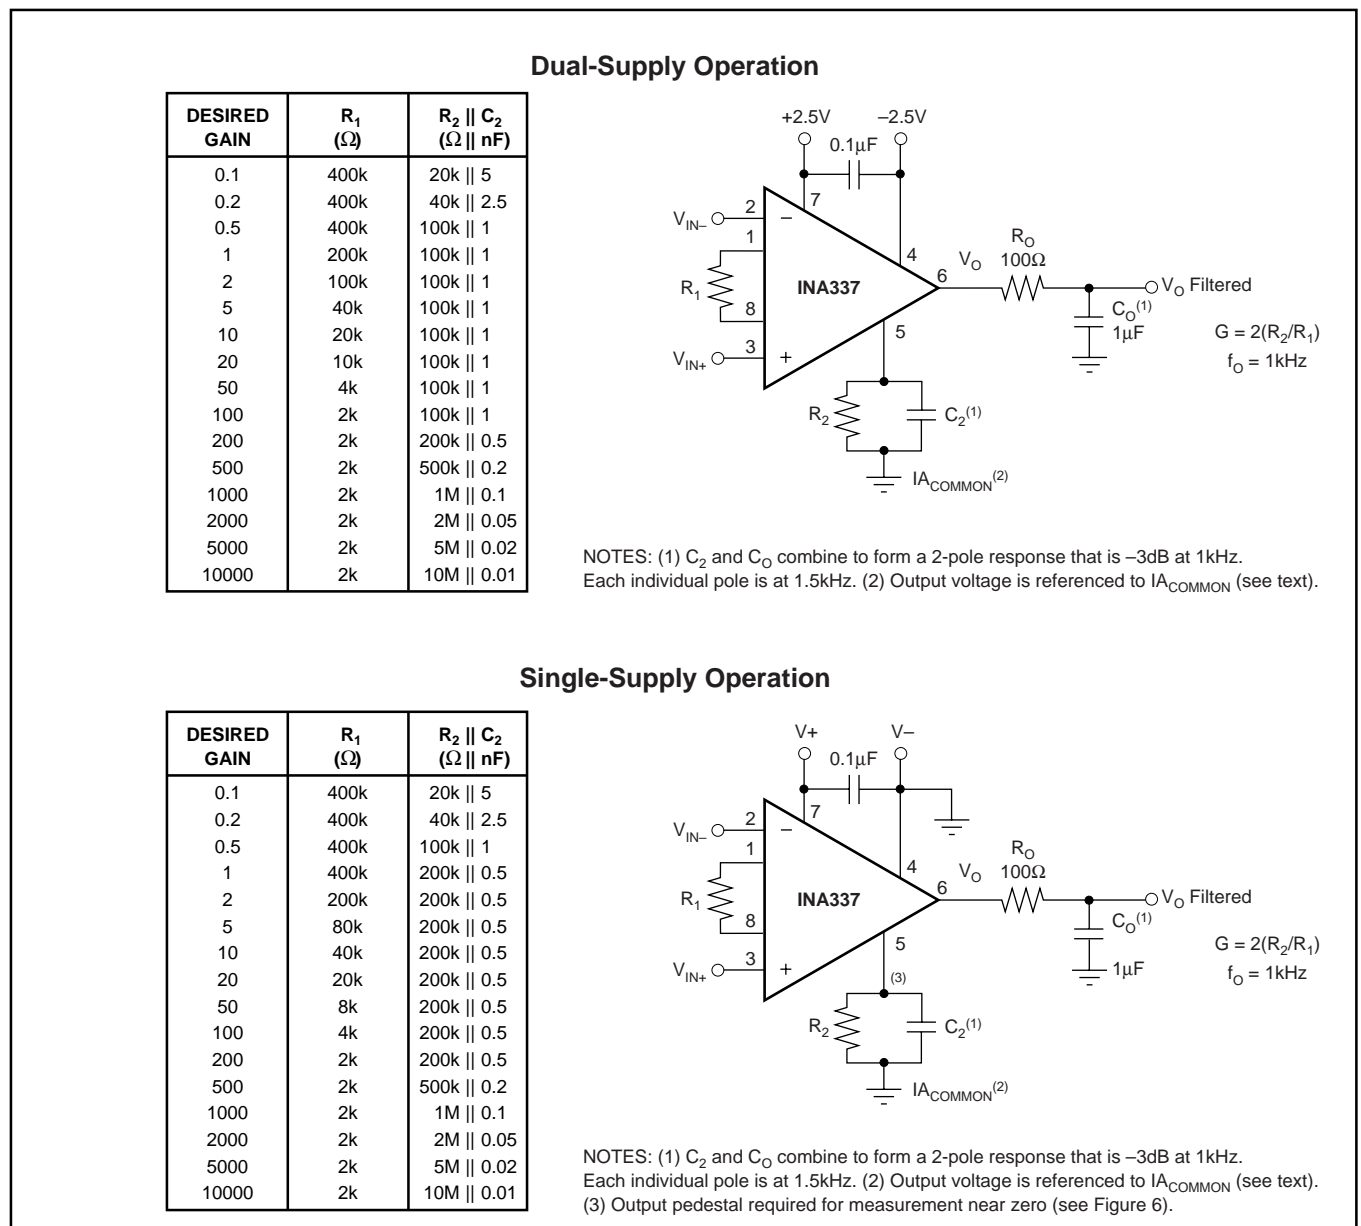

FIGURE 1. Basic Connections. NOTE: Connections for INA338 differ—see Pin Configuration for detail.
NOTES: (1) 1000-hour life test at  $150^{\circ}C$  demonstrated randomly distributed variation in the range of measurement limits—approximately  $10\mu V$ . (2) See Applications Information section, Figures 1 and 2. (3) Does not include error and TCR of external gain-setting resistors. (4) Dynamic response is limited by filtering. Higher bandwidths can be achieved by adjusting the filter. (5) See Typical Characteristics, "Input Offset Voltage vs Warm-Up Time".
Figure 1 shows the basic connections required for operation of the INA337. A 0.1µF capacitor, placed close to and across the power-supply pins is strongly recommended for highest accuracy. ROCO is an output filter that minimizes auto-correction circuitry noise. This output filter may also serve as an anti-aliasing filter ahead of an Analog-to-Digital (A/D) converter. It is also optional based on desired precision.
Resistor values for commonly used gains are shown in Figure 1. Gain-set resistor values for best performance are different for +5V single-supply and for ±2.5V dual-supply operation. Optimum value for R1 can be calculated by:
Circuit layout and supply bypassing can affect performance. Minimize the stray capacitance on pins 1 and 8. Use recommended supply bypassing, including a capacitor directly from pin 7 to pin 4 ( $V+$  to  $V-$ ), even with dual (split) power supplies (see Figure 1).